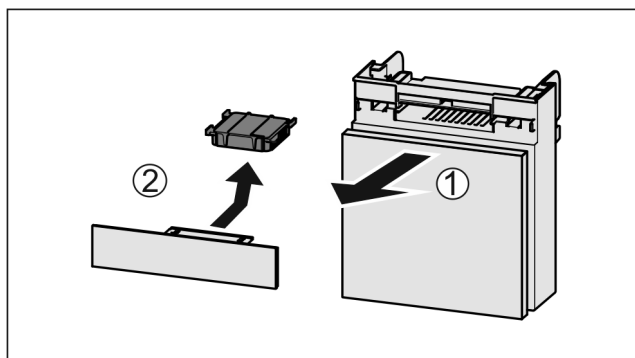

Fig. 225
- Pull out the compartment Fig. 225 (1).
- Remove the carbon filter Fig. 225 (2).